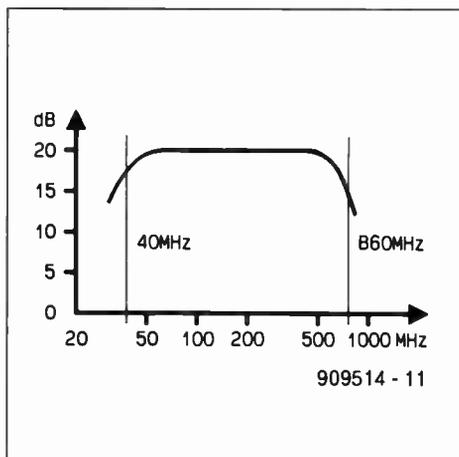

Fig. 1. Pass-band of the amplifier.
**B**URR-BROWN's REF200 provides in one 8-pin DIL package two independent current sources, either of which can supply 100 µA, and a 1:1 current mirror. The pinout of the device is shown in Fig. 1. Note that there are no pins for connecting a supply voltage. The correct operation of the current sources is, however, guaranteed when the potential across the source is not less than 2.5 V. The average drift with temperature is only 25 p.p.m./K. The output impedance is not less than 100 MΩ. The operating voltage must not exceed 40 V.
The amplifier is powered via the output coax cable. This arrangement is called a phantom supply. Figure 1 gives an indication of the RF performance that may be expected from the amplifier. It is seen that a gain of about 20 dB is achieved at frequencies between 40 MHz and 860 MHz.